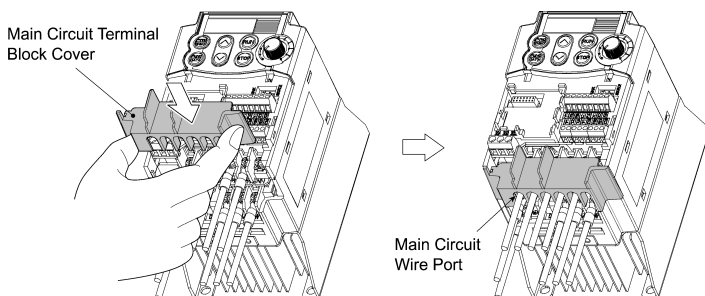

Figure 2.11 Replacing the Main Circuit Terminal Block (TB) Cover
- 1) As shown in Figure 2.11, pull out the wires from the main circuit terminals in parallel.